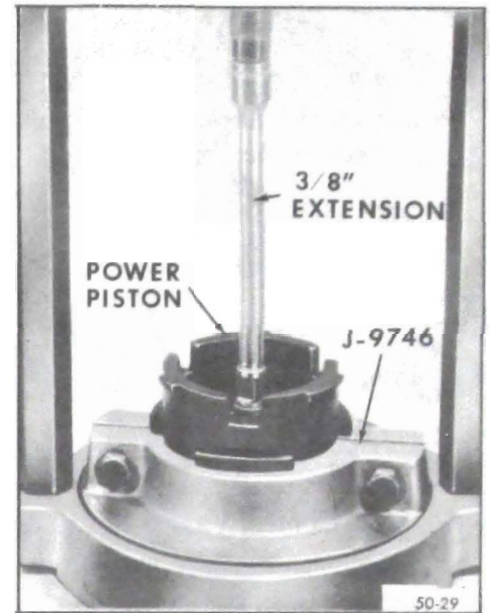

Figure 50-88 Removing Air Valve Assembly
11. Set up Power Ram and Hydraulic Pump with J-9746 Press Plate. Insert power piston, tube down, in press plate and remove air valve assembly using a 3/8" drive extension as a remover. See Figure 50-88.